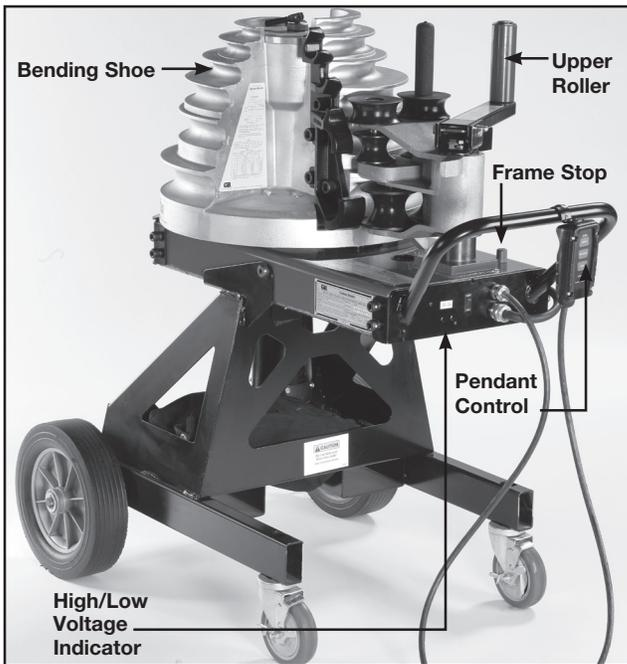

Figure 1. B2000 Cyclone® Bender
- To prevent damage to the bending shoe, do not allow the clamping jaws to strike the upper roller support arm when the shoe is rotating. Position the roller housing against the frame stop. See Figure 1.